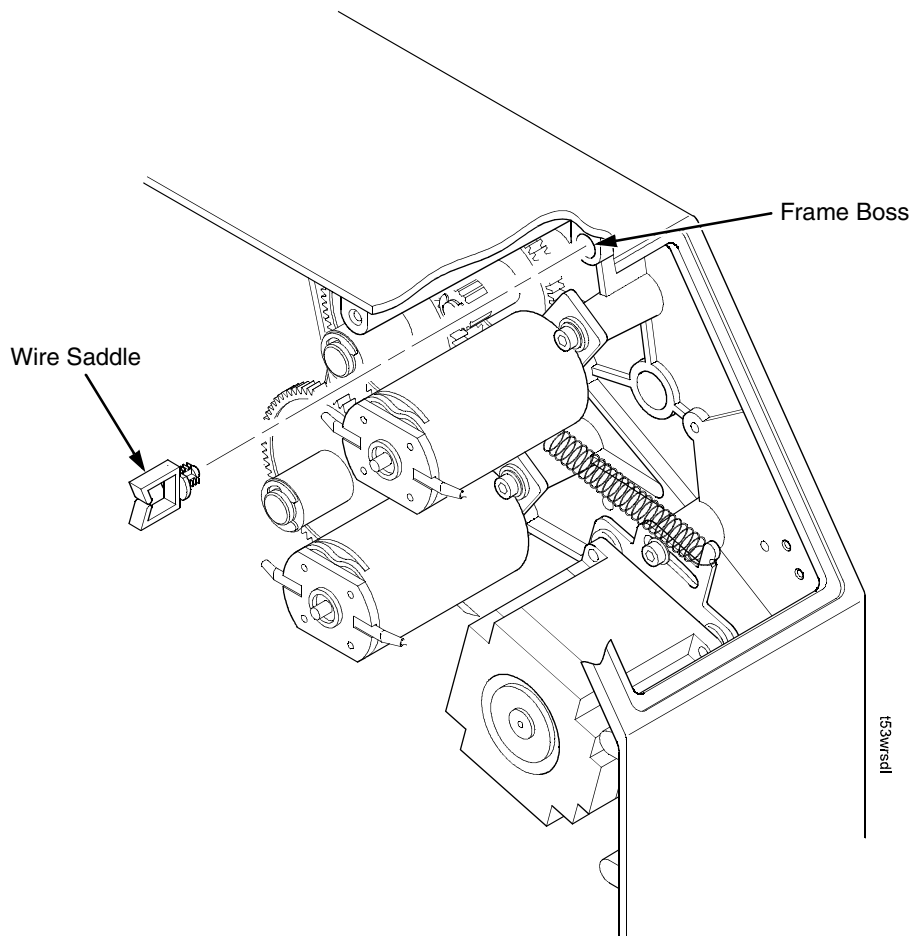

Figure 5. Inserting the Wire Saddle Into the Frame Boss
7. Insert the wire saddle into the frame boss. (Figure 5.)